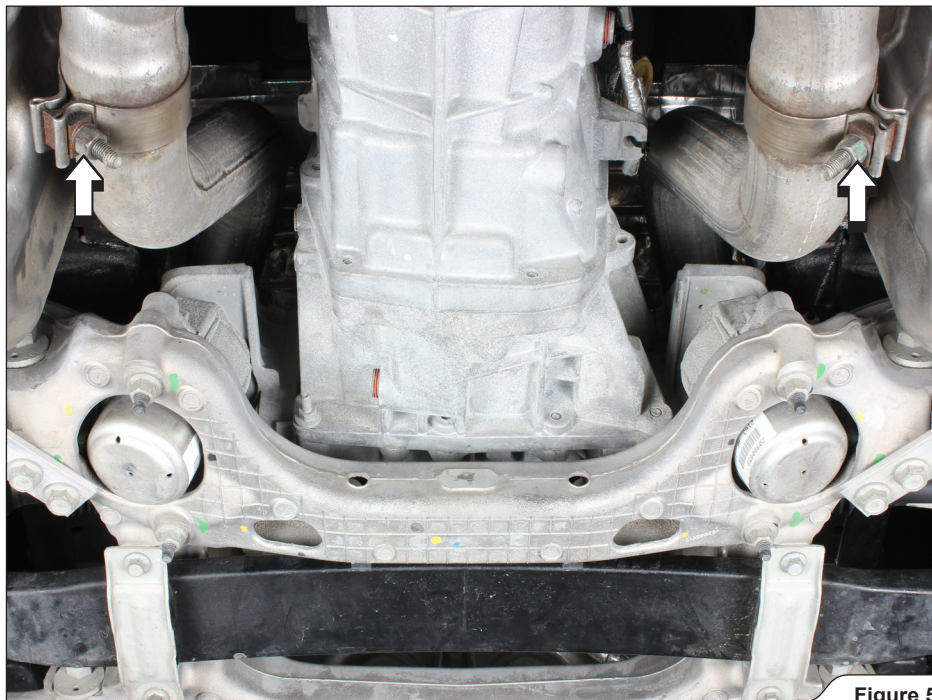

Figure 5
5. Loosen the marked clamps (**Figure 5**).